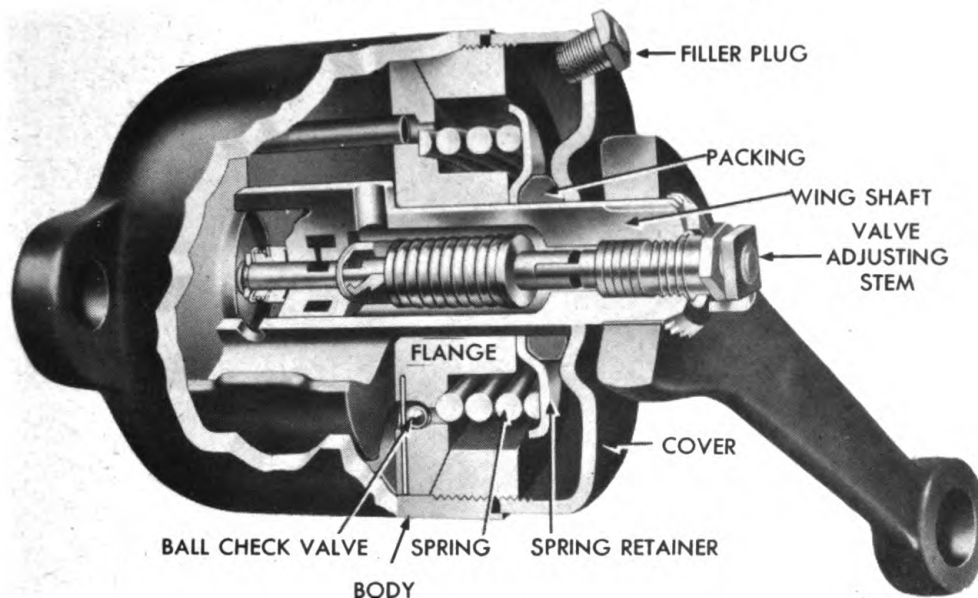

Figure 57 - Shock Absorber - Cutaway View RA PD 77083
a. Disassembly (fig. 57).
- (1) Remove filler plug, and drain fluid from shock absorber.
- (2) Attach puller to lever with short piece of pipe resting on wing shaft, between wing shaft and puller screw, to avoid damage to adjusting valve. Pull lever from wing shaft.
- (3) Clamp body of shock absorber in vise, and loosen threaded cover in body, using hammer and punch to unscrew cover. Do not remove cover. Leave last two or three threads engaged with body, otherwise spring pressure will cause cover to fly out when threads are disengaged.
- (4) Place unit in hydraulic press with ram of press resting lightly against cover. Unscrew cover from body, and release hydraulic press slowly. Remove shock absorber from hydraulic press.
- (5) Turn shock absorber over, and tap on edge of bench to remove valves from inside body.